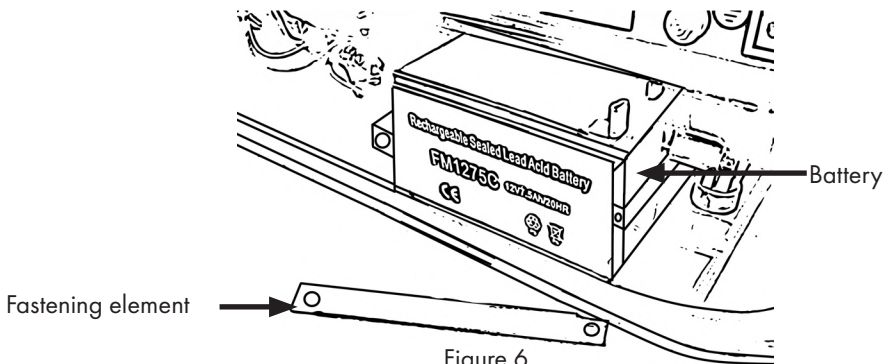

Figure 6
- First insert the battery as shown in Figure 6 and secure it with the screws on the front.